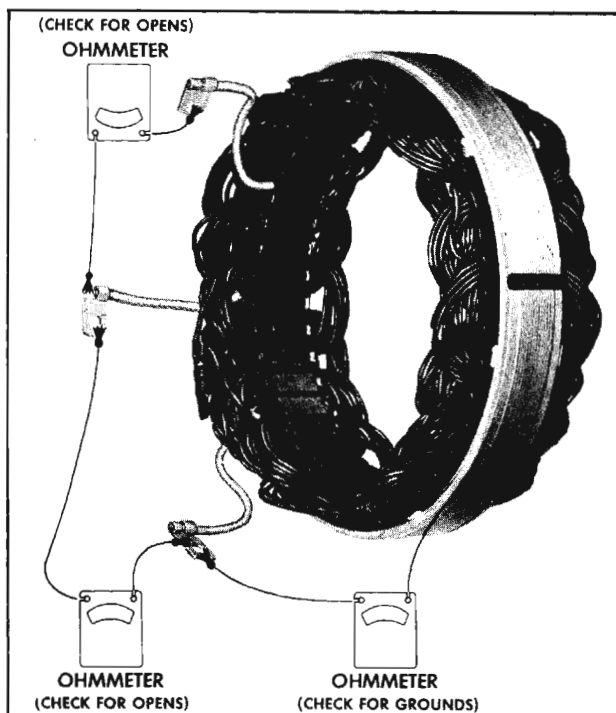

Fig. 14-19 Checking Stator
If lamp does not light or no ohmmeter reading can be obtained, repeat procedure on the other two stator leads. (Fig. 14-19)
- B. Connect a 12-volt test lamp or an ohmmeter between each pair of stator leads. If the lamp fails to light or the ohmmeter reading is high between any pair of leads, the stator winding is open and the stator must be replaced. (Fig. 14-19)